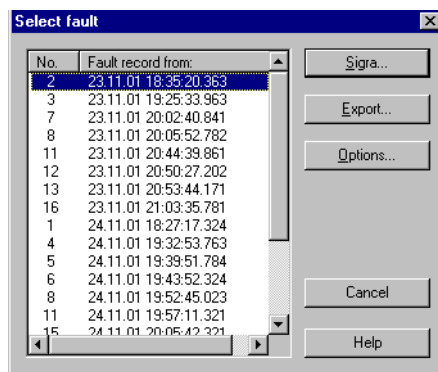

Figure 6-14 Select fault window in DIGSI
- Double-click **Fault recording**. The Select fault window opens (Figure 6-14, page 254).